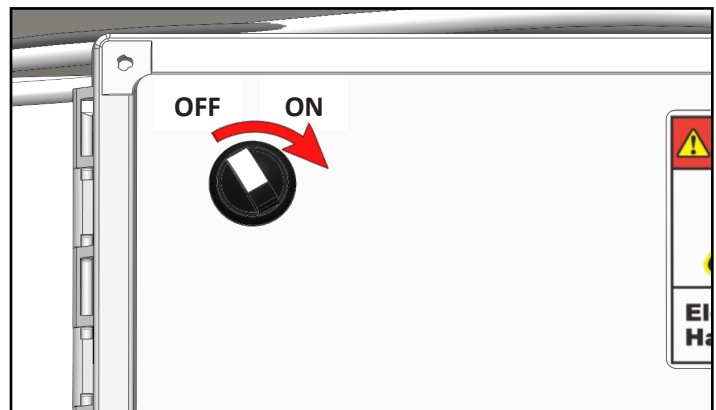

Fig. 7.2: Controller power switch
1. Turn switch on control box to **ON** position [Figure 7.2].